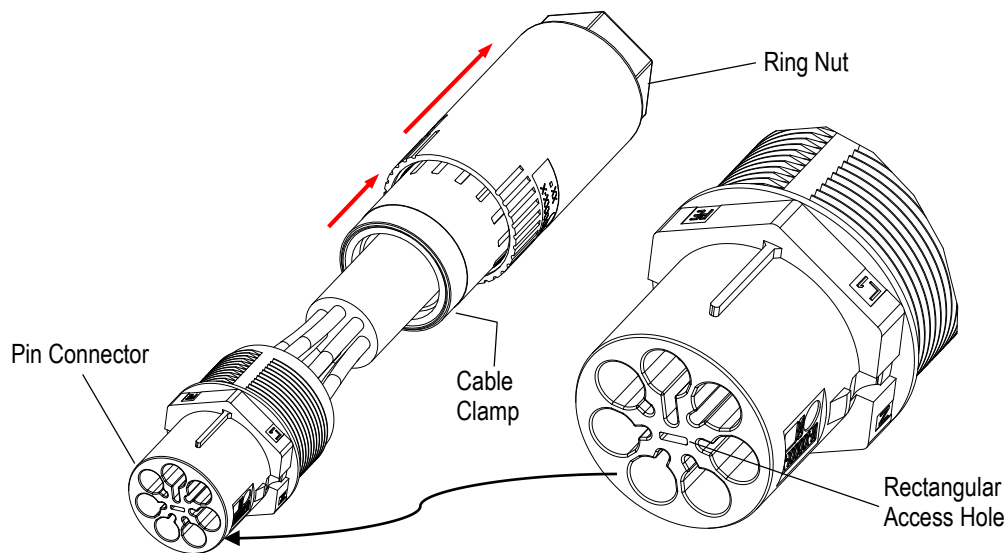
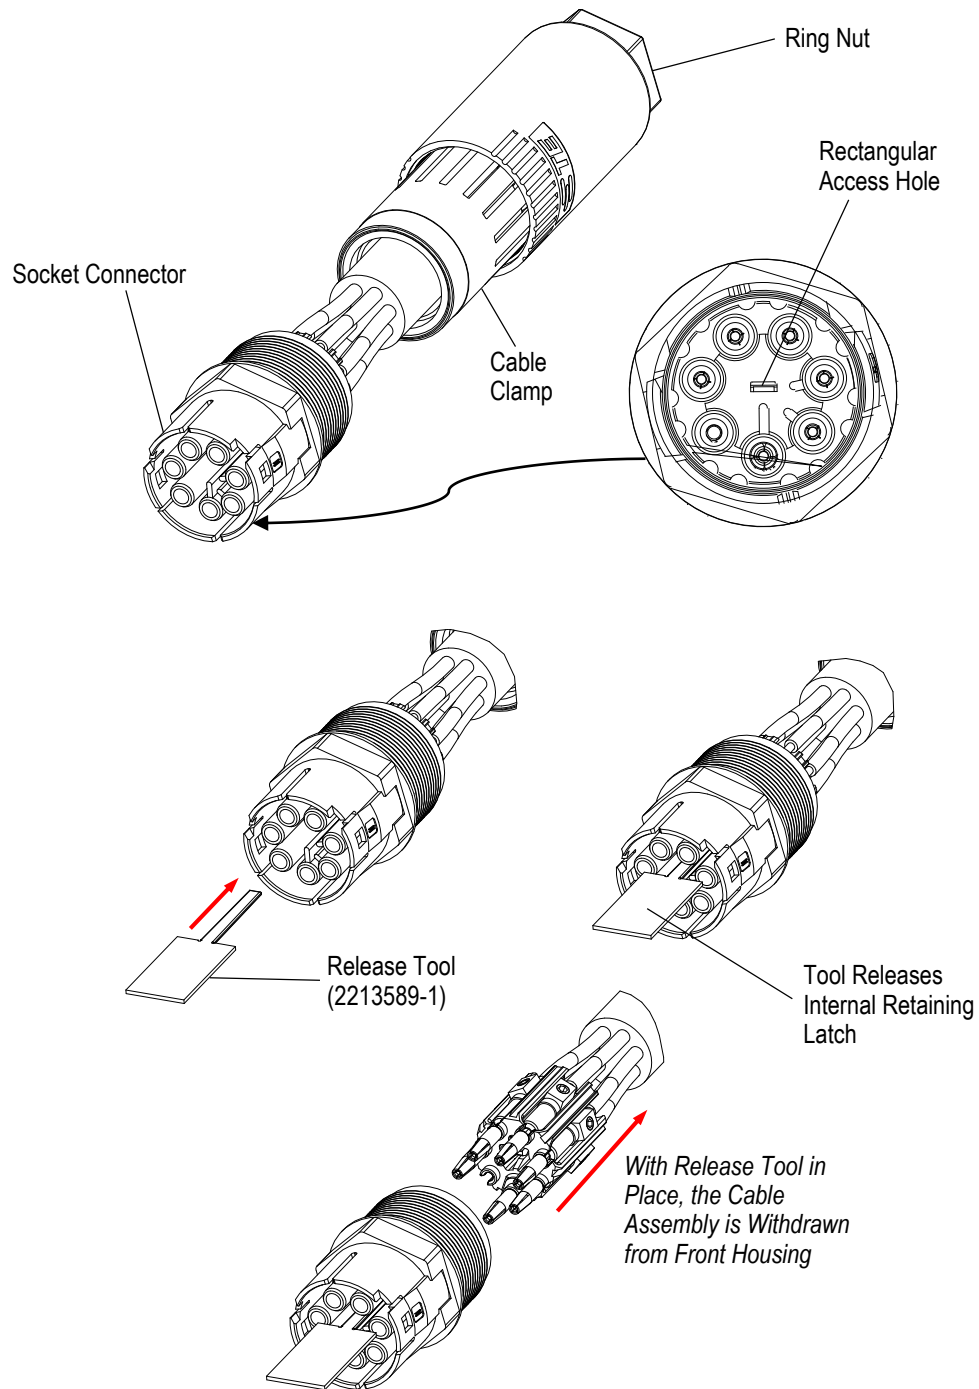

Figure 32
Figure 33
4. A rectangular access hole is centrally located in the front mating surface of the connector front housing. This is easily located on pin housing (Figure 32), and is seen inside the cylindrical shroud of the socket housing (Figure 33).